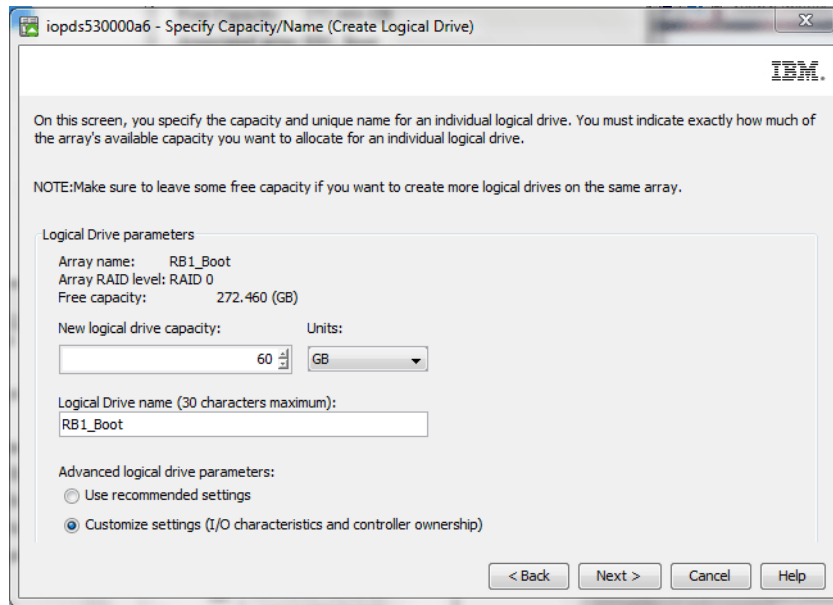

Figure 2-54 Creating the logical drive
2. After clicking **Create Logical Drive**, you will see an informational panel, click **Next** here. In the following panel as shown in Figure 2-54, you need to select the size of the drive you want to present as your SAN Boot LUN. Here you need to give the logical drive a name.